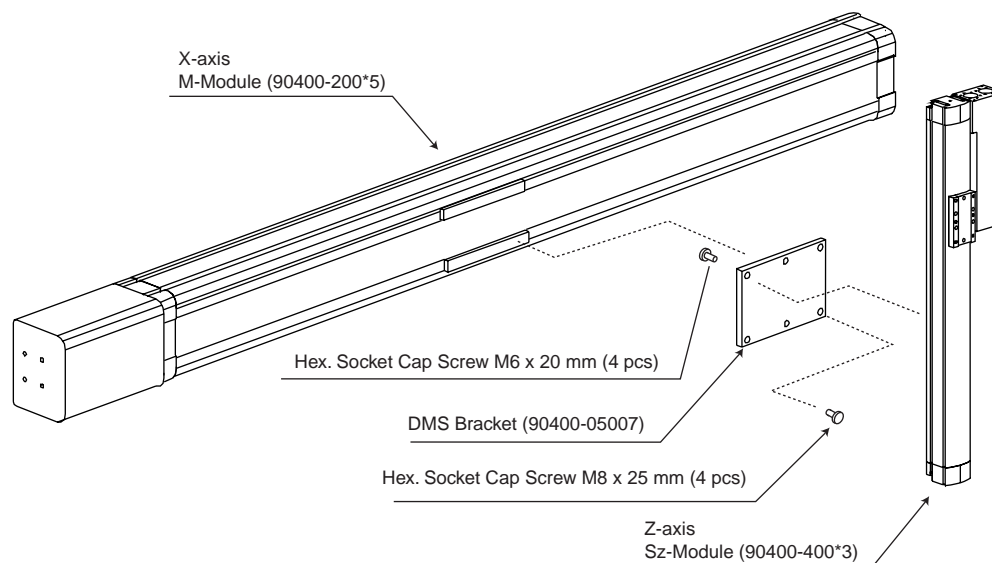

Figure 4-33. K-4 Type Mechanical Assembly
5. Mount the Z-axis to combining bracket. Install the mounting bolts (see Figure 4-33 and refer to Table 3-3 for mounting bolt specifications).